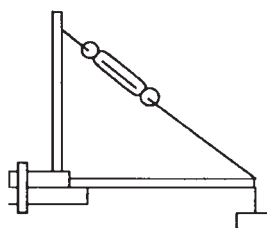

Figure 2.32 Activity 3
- 3 Clamp a retort stand near the edge of the bench and butt one end of a ruler up against it, the other end of the rule being attached by string to a spring balance and the upper end of the retort stand (Figure 2.32). Suspend weights from the free end of the rule and determine the reading on the balance when the rule is horizontal. Explain the results you obtain.